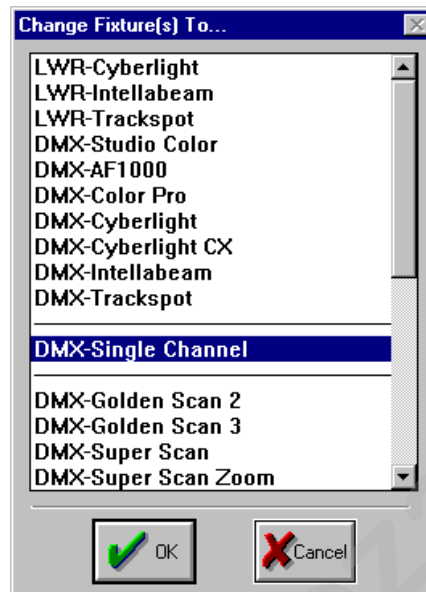

Figure 4.21. Change Fixture(s) To... Dialogue Box
2. Click the **Change** button. This brings up the **Change Fixture(s) To...** dialogue box. Refer to Figure 4.21.